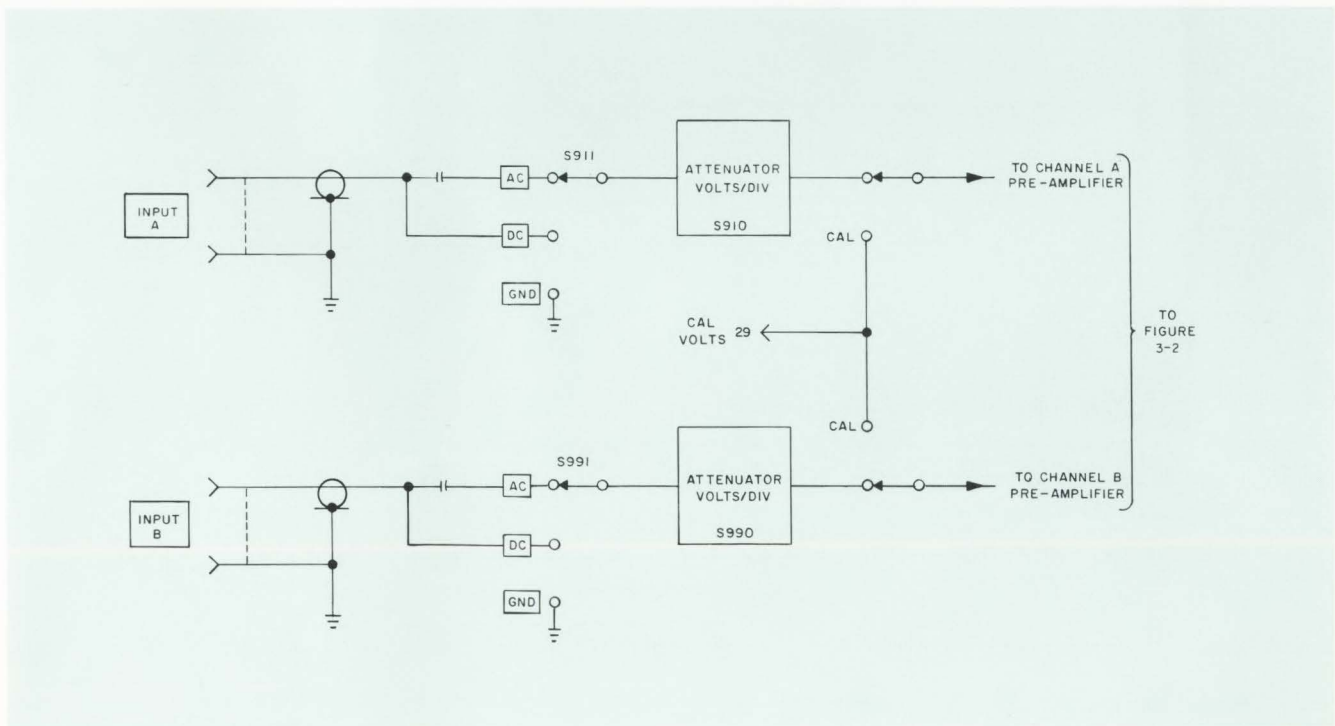

Figure 3-1. Type 76-02A Input Circuit, Functional Block Diagram
- Figure 3-1. Type 76-02A Input Circuit, Functional Block Diagram
#### a. Input Channel (Figure 3-1)